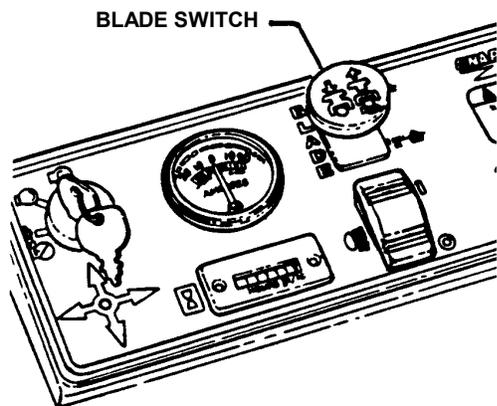

FIGURE 2.2
**2.1.4.** Check Blade switch to insure it works freely. Switch is pulled "OUT" for blade engagement or pushed back "IN" for blade disengagement. See Figure 2.2. **IMPORTANT:** Disengagement stops blades.
3. Push blade switch in to "OFF", blades disengaged position and engage parking brake. See Figure 2.2.
2. Pull the Blade Switch out to the "ON" position to engage the mower blades. See Figure 2.2.